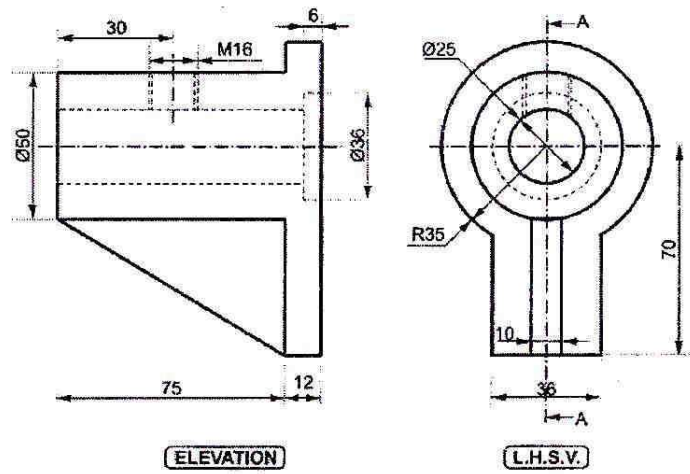

Fig. No. 7
9. The following Fig. No. 7 shows Elevation and End View of an object. Using same method of projection, draw the following views :